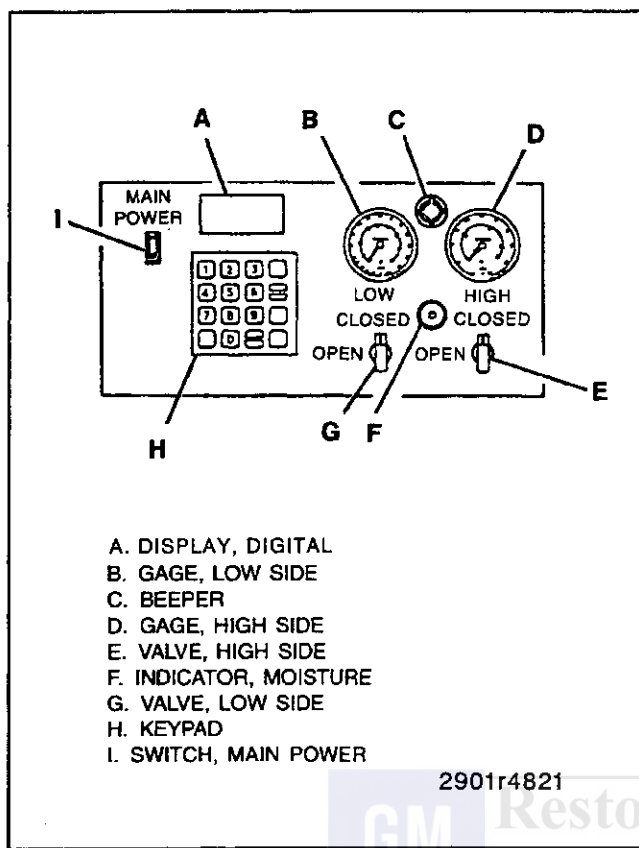

Figure 14—Control Panel
This section explains the functions of the various components of the unit's control panel (figure 14).
4. Open both the high side (E) and the low side (G) valves on the control panel (figure 14).